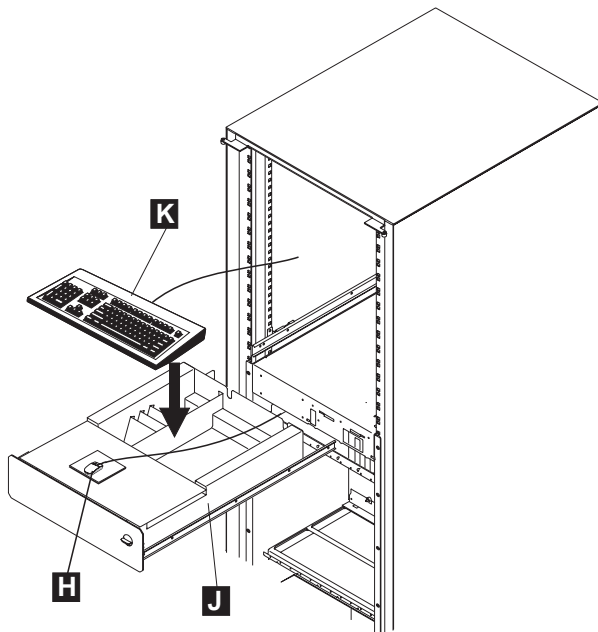

Figure 1-4. Keyboard Installation
1. \_\_\_\_ Unpack the keyboard and the mouse, open the service drawer **J**, and install the keyboard **K** in the drawer as shown in Figure 1-4 put the mouse **H** on the plate located in front of the keyboard.